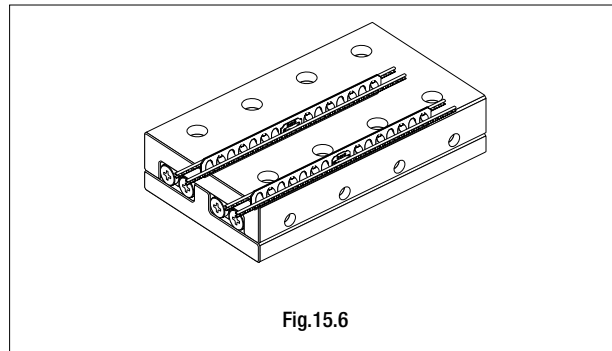

Fig.15.6
- Gently move the table at a full stroke and make sure that the cylindrical roller at each end of the retainer does not hit the end screw of the track base within the stroke. If the roller hits the retainer end, repeat the above steps from the first. (See Fig.15.6)